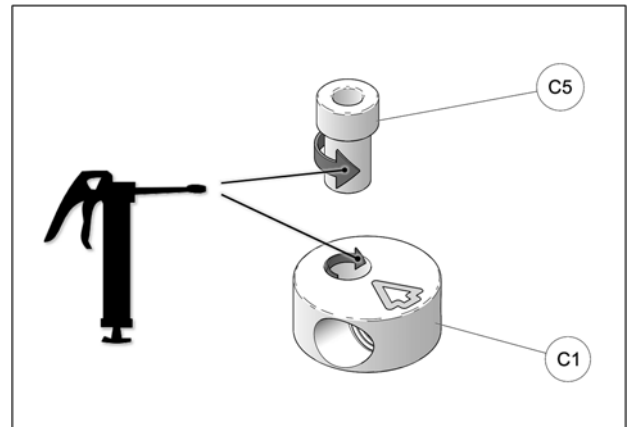

Fig. 15
- At assembly, apply grease evenly all around step spacer bushing (C5) and in hole of aluminium disk (C1). See Fig. 15